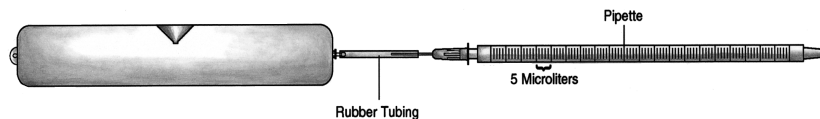

Figure 8: Testing Pump Stroke Volume with a Pipette
6. Insert the pipette into the hub. A meniscus of fluid will be present in the pipette. This should be done on a flat surface with the pipette/tubing assembly horizontal. (see Figure 8).